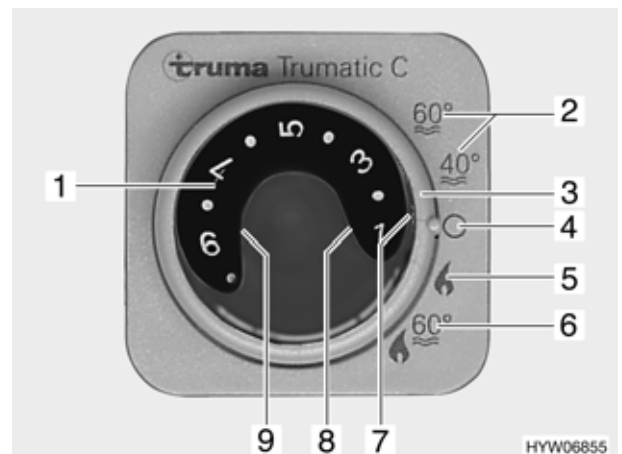

Fig. 120 Operating unit for heater/boiler
- Set the operating mode using the rotary switch (Fig. 120,3):
- Summer operation "40 °C" or "60 °C" (Fig. 120,2)
- Winter operation "Heater without Boiler" (Fig. 120,5)
- Winter operation "Heater and Boiler" (Fig. 120,6)
- Off (Fig. 120,4)
The heater selects the necessary burner setting according to the required room temperature. When the required room temperature is reached, the burner is switched off. In "Heater and Boiler" operating mode (Fig. 120,6) water in the boiler is also heated. In the operating mode "Heater without Boiler" (Fig. 120,5) the heater can be operated with an empty boiler.
- Turn temperature control knob (Fig. 120,1) on the operating unit to the required room temperature.
- Set rotary switch (Fig. 120,3) to winter operation "Heater without boiler" or to winter operation "Heater and boiler".
Green indicator lamp (Fig. 120,7) comes on.
- Set rotary switch (Fig. 120,3) to "Off" (Fig. 120,4).
The voltage supply for the heater/boiler and the safety/drainage valve cannot be interrupted by the 12 V main switch. When there is a fault, the red indicator lamp (Fig. 120,8) on the operating unit for Trumatic C heater/boiler lights up (see chapter 14).